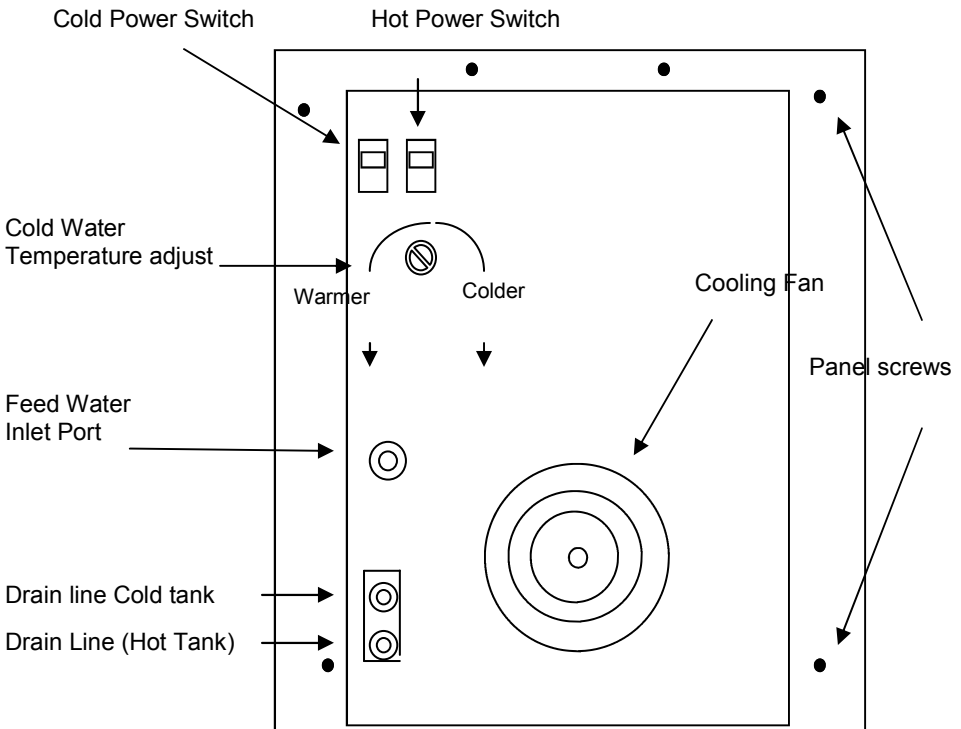

Figure 3 Back View of Cooler
- k. The temperature of cold water is set at the factory. Using a flat screw driver, the temperature can be adjusted, if needed, by turning the temperature control slot Clockwise for colder and Counterclockwise for warmer (See Figure 3).
- b. To access the filter compartment, remove the two screws that secure the right side panel. (See Figure 3).